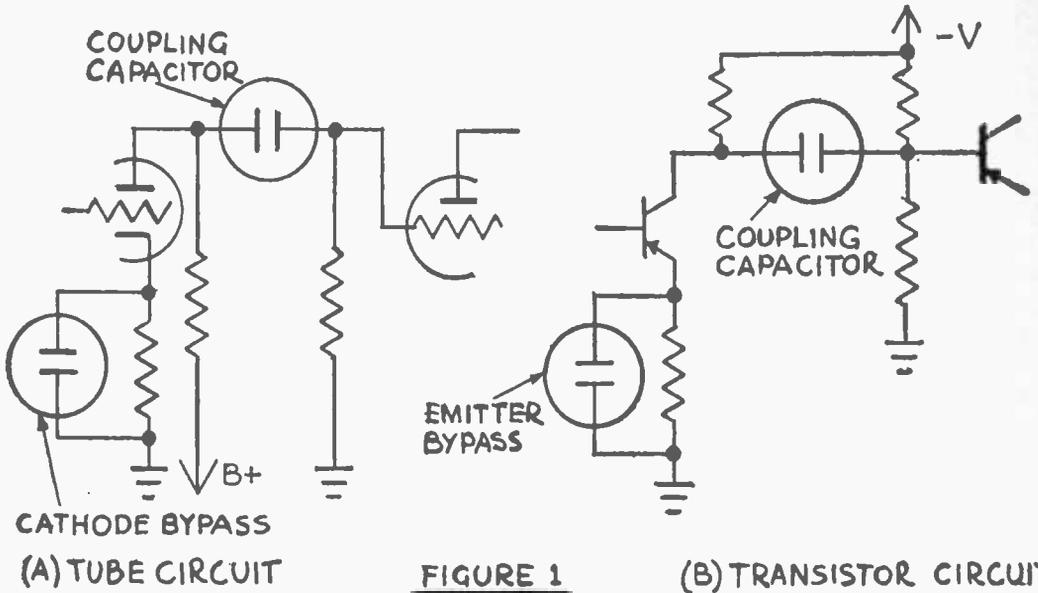

FIGURE 1
Extending low response: Low frequency response may be improved by increasing the size of interstage coupling capacitors and by increasing the size of cathode (or emitter for transistor circuit) bypass capacitors. Figure 1 shows the capacitors in a typical circuit schematic. In general, use .1 mfd. to 1 mfd. coupling capacitors for tube circuits and 10 mfd. to 30 mfd. capacitors for transistor circuits. Use 100 mfd. bypasses for tube cathode or transistor emitter bypass circuits. Voltage ratings of replacement capacitors should be
How It Works: With the Amplagimik switch set to Position A., Capacitor C1 is connected in series with the amplifier and jack J1 (Fig. 1). In this position the unit functions as an amplifier and R2 is the gain control. It may be used as a utility amplifier for radio tuners or microphones, an audio signal tracer, an ac bridge null amplifier, or for any of the other numerous functions which an audio amplifier can perform.
Next, mate the front case assembly and the modified amplifier connections. Figs. 1 and 8 give details. The battery should be wedged against the end of the case with a small piece of sponge rubber inserted between the speaker magnet frame and the battery. The amplifier fits over the back of the speaker and the battery. A short piece of wire passing inside the speaker magnet frame must be brought up through the two large holes to the top side of the amplifier. This provides "first order" anchoring for the amplifier. A small piece of sponge rubber fastened to the top of the output transformer with rubber cement will hold the amplifier firmly in place when the back is fastened.
Deviations: The amplifier (A) input circuit shown in Fig. 1 was chosen to suit particular requirements. The arrangement shown in Fig. 9A is more desirable for general purpose use—particularly if there is a dc voltage component in the input signal. The input circuit shown in Fig. 9B is desirable if, in addition, you wish to have a higher input impedance. This arrangement causes a considerable reduction in amplifier gain.